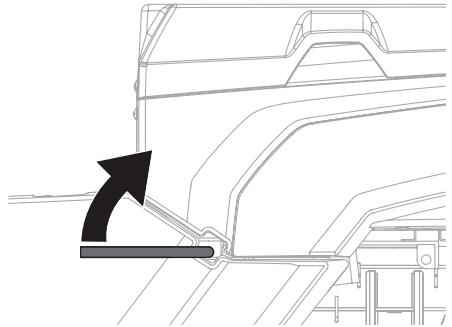

Figure 7
3. For light loads, unlatch cargo bed by pulling up on one of the cargo bed release levers. While holding the cargo bed release lever lift the cargo bed (Figure 7).